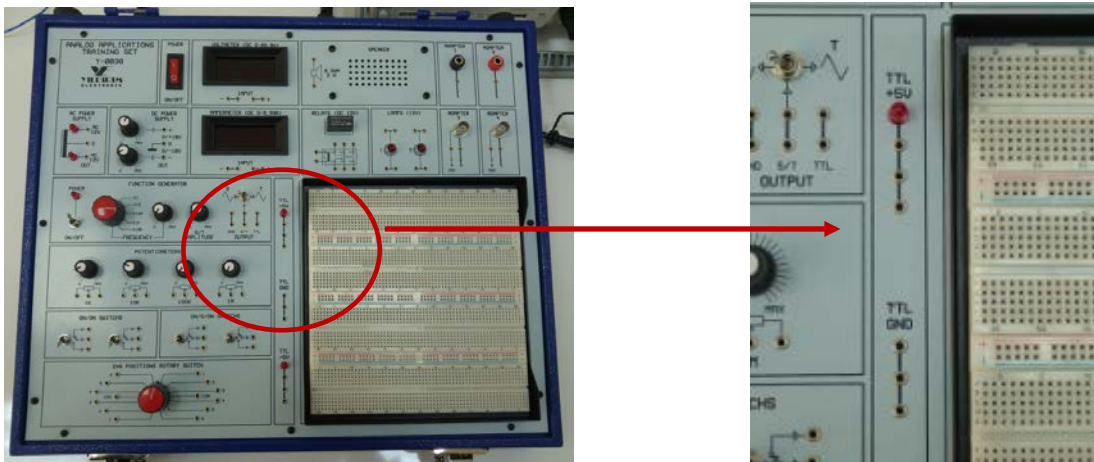

Figure 1. The DC Voltage Source.
- **DC Voltage Source:** The DC Voltage Source capable to supply 0-30 V DC Voltage. The voltage can be adjusted by using caps on the panel. It has a special module which provides constant 5V to the circuit. (Figure 1).